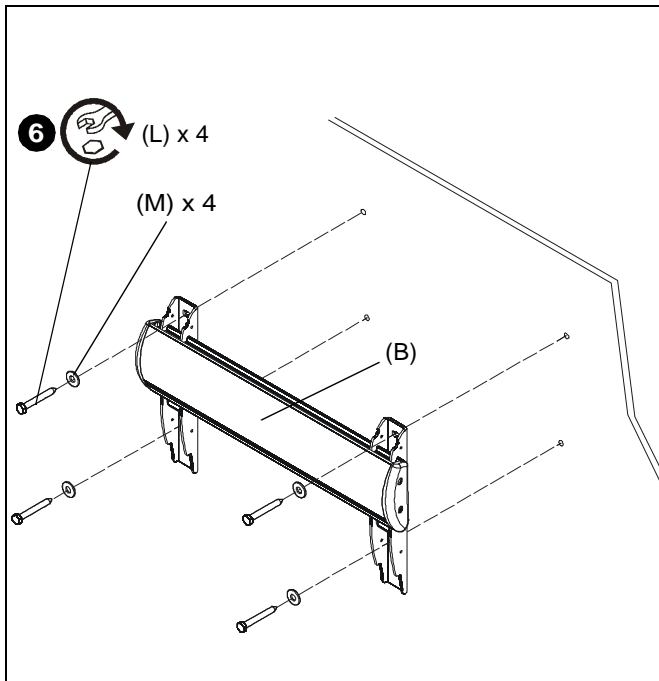

Figure 4
6. Install four 5/16 x 2-1/2" hex head lag screws (L) through four 5/16" washers (M), holes of mounting bracket and into drilled holes. (See Figure 4)